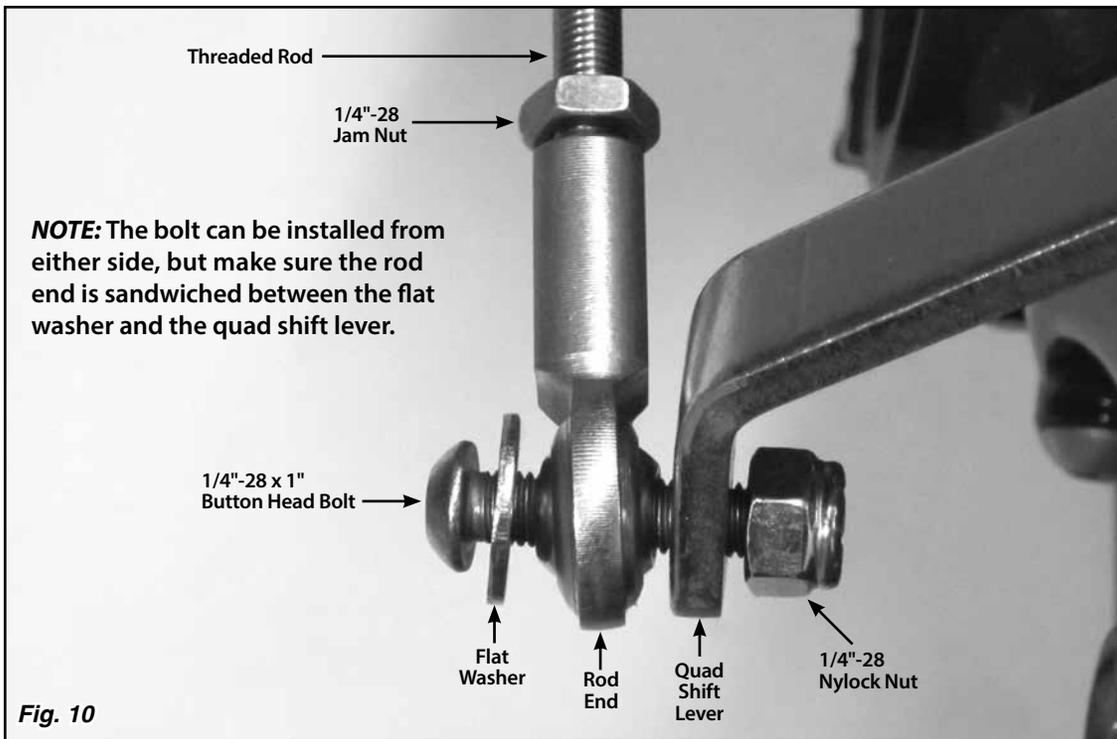
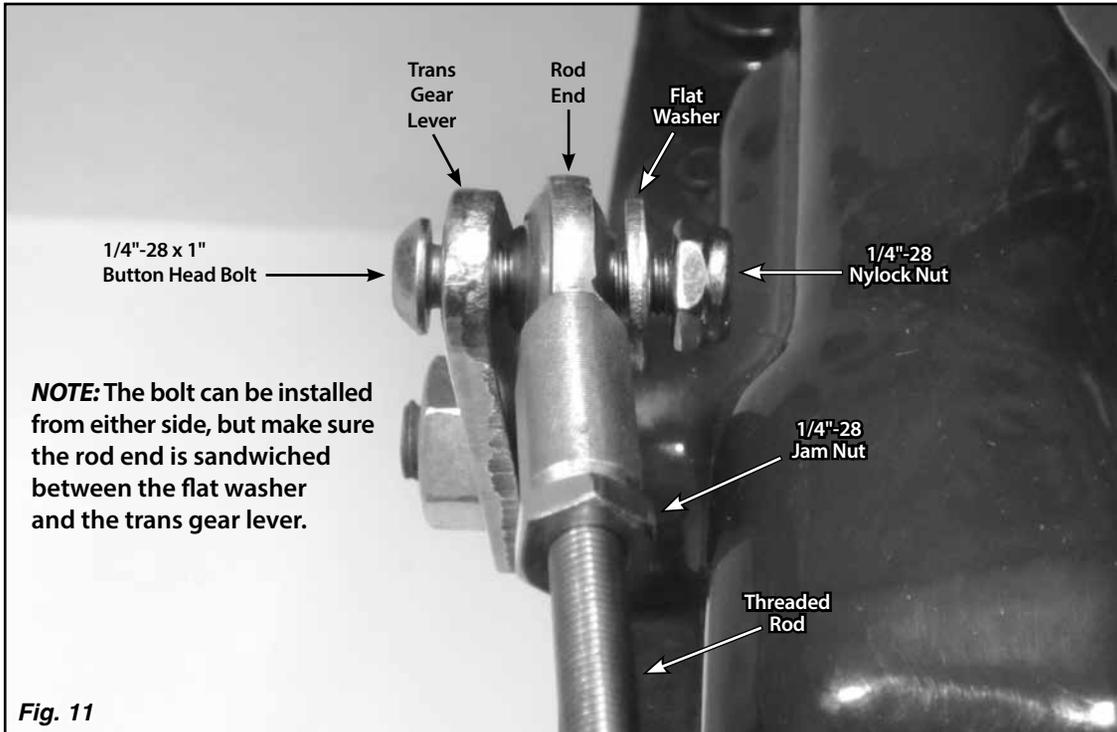

Fig. 10
Fig. 11
Step 15: Verify that both 1/4"-28 jam nuts are on the threaded rod, and install a rod end onto each end of the threaded rod. Attach the threaded rod assembly to the **inside** of the trans gear lever and to the **outside** of the quad shift lever using the 1/4"-28 x 1" button head bolts, flat washers, and nylock nuts as shown in **Fig. 10** and **Fig. 11**. The button head bolts can be installed from either direction, but make sure each rod end is sandwiched between the flat washer and the trans gear lever or quad shift lever.